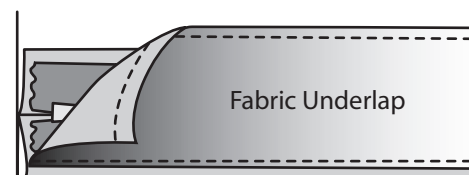

Figure 2
- ★ Add an underlap so you do not catch your skin, shirt, or lingerie when closing the zipper. You can use grosgrain ribbon or fabric that is the same width as the zipper tape. Stitch it to the seam on the underlap side of the zipper, and tack it on the opposite side at the bottom to hold it in place. (Figure 2)